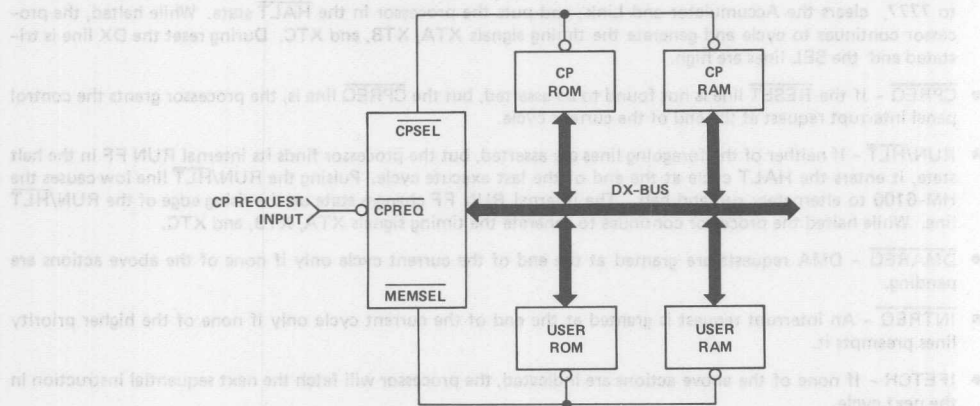

FIGURE 11 — Control Panel Block Diagram
The HM-6100 CPU provides a unique Control Panel (CP) feature through its $\overline{\text{CPREQ}}$ input and $\overline{\text{CPSEL}}$ output lines. After acknowledging the control panel request, the CPU generates the necessary timing to execute program code in CP memory while also providing the capability to transfer data between CP memory and the user memory using the AC as a buffer. This allows the user memory to be examined and/or modified by the CP software. The CPU will output the $\overline{\text{MEMSEL}}$ signal for all user memory references while the $\overline{\text{CPSEL}}$ signal is generated for CP memory references as shown in Figure 11.